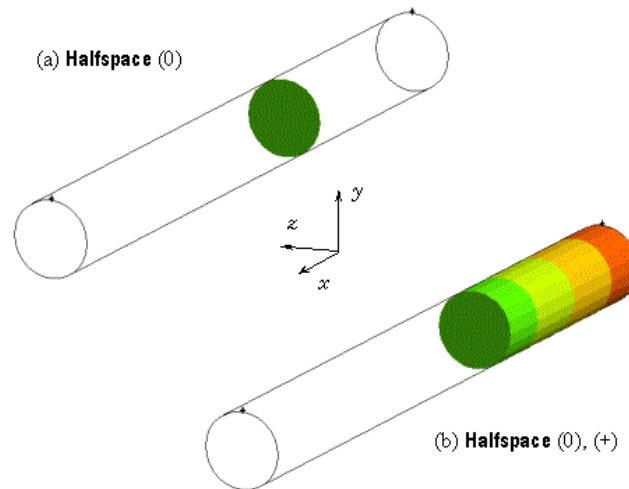

Figure 9.6.5: Effect of Halfspace Options on Isosurface Object of Pressure = 200
- Figure 9.6.5 (b) shows the isosurface object created using the Halfspace(0) and (+) options.